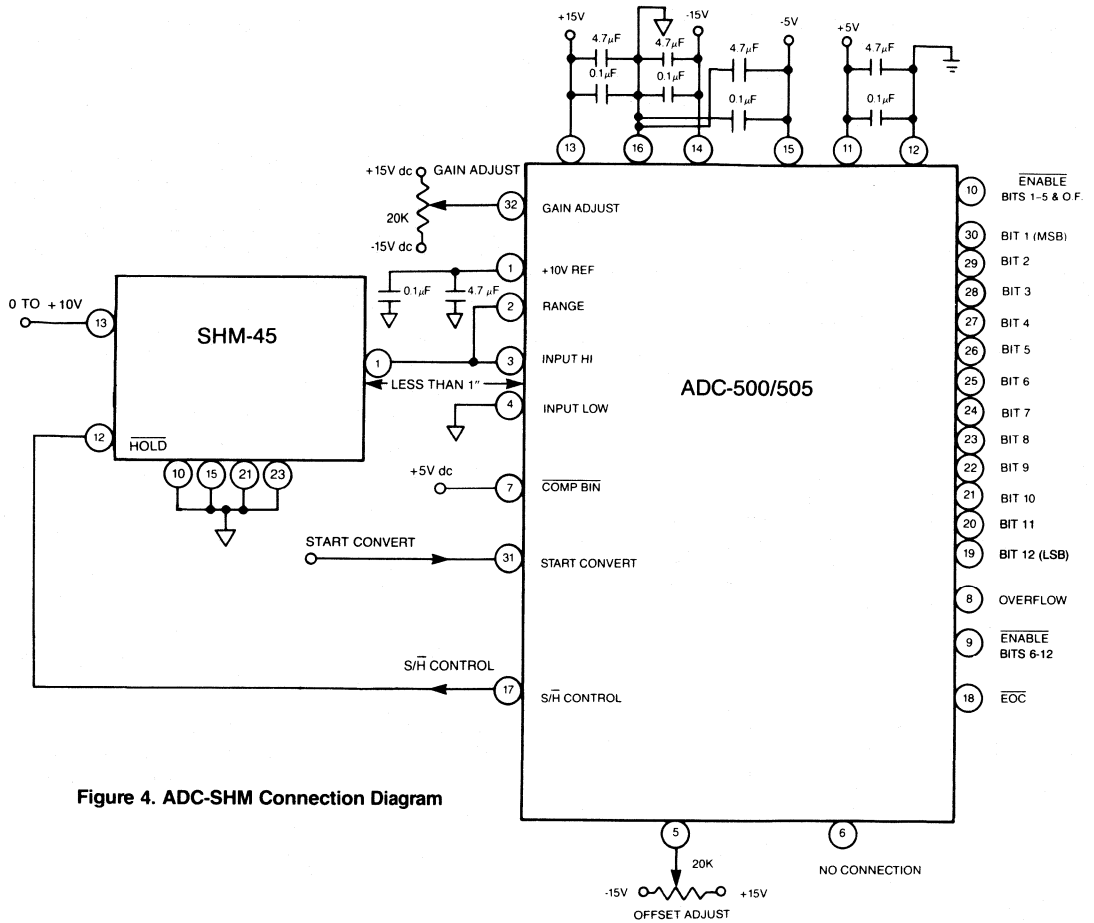

Figure 4. ADC-SHM Connection Diagram
9. Requirements for ± 2.5 V inputs can be satisfied using DATEL's AM-1435 amplifier in front of the SHM-45/ADC-500 configuration, shown in Figure 4, at the appropriate gain. The SHM-45's gain of 2 mode allows 0 to +5V or ± 5 V input ranges.
This theory of operation describes the ADC-500's operation in conjunction with DATEL's SHM-45. The SHM-45 sample-and-hold device captures fast signals for an ADC-500 to then digitize. Figure 4 shows a typical ADC-SHM circuit. The ADC-500 employs a subranging architecture with digital error correction. Also known as a two-step method of conversion, this technique uses a single 7-bit flash converter twice in the conversion process to yield a final resolution of 12 bits. Refer to the ADC-SHM connection diagram, the ADC block diagram, and the timing diagram as needed (Figures 4, 1 and 2 respectively).